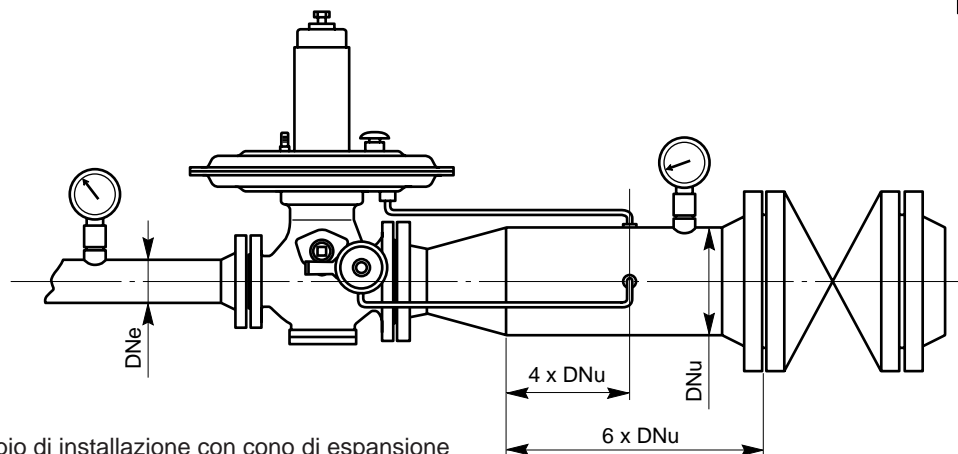

FIG. 5 Esempio di installazione con cono di espansione
- In models with external impulse connection, link-up must be made downstream of regulator (Fig. 5).
- In models featuring internal impulse connection, connect the sensing line prior to regular being installed onto the line. In case of values exceeding those shown in the "OUTLET PRESSURE- CAPACITY" table, these models require an external impulse connection (see Fig. 5).